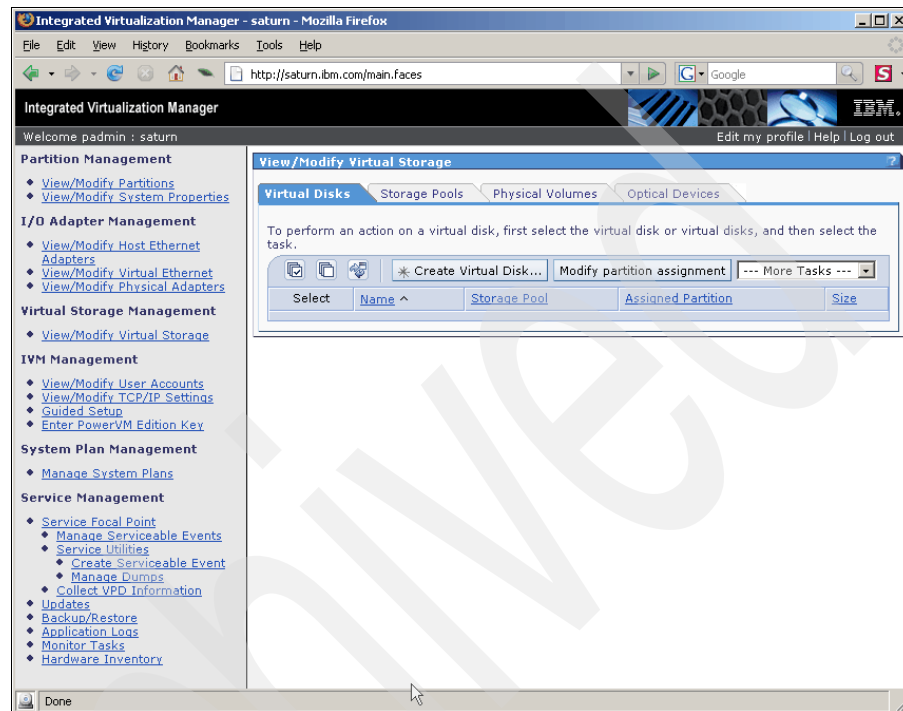

Figure 6-13 View/Modify Storage
3. Verify that your storage is available to the VIOS. Click **View/Modify Virtual Storage** in the left menu under Virtual Storage Management. See Figure 6-13.